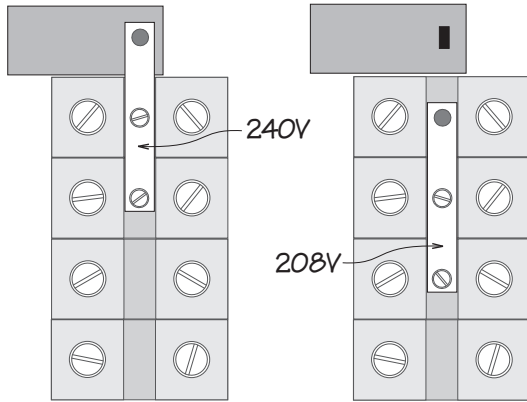

Fig 4-2 Input Voltage Jumper
2. Use a small, flat head screwdriver to position the input voltage jumper to the correct voltage setting. See figure 4-2. Do not overtighten screws.